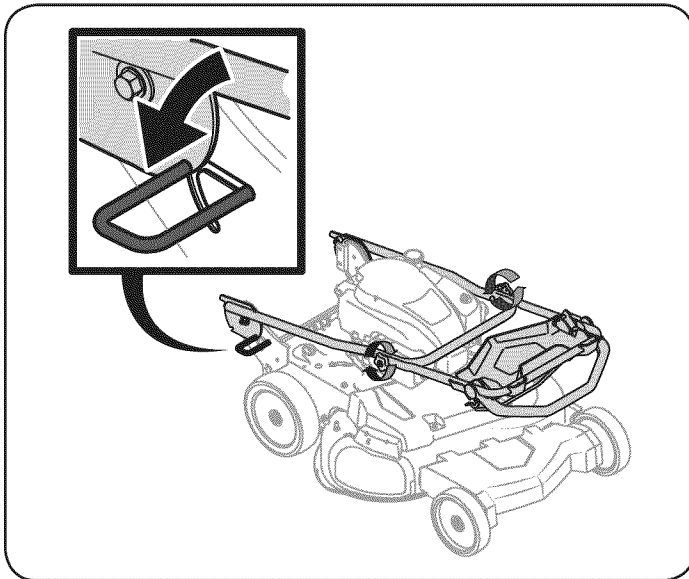

Figure 1
1. Tighten star knobs securing upper and lower handles together. Push down on the handle adjustment lever with your foot. See Figure 1.